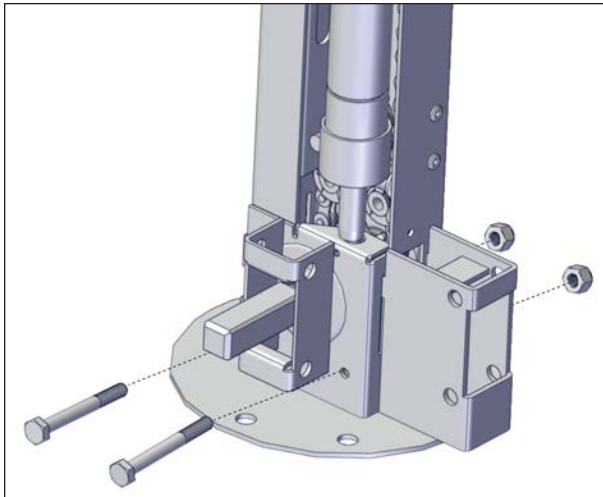

FIGURE 38: SCREW INSTALLATION
5. Install two 1/4" x 2 1/4" hexagonal head screws and nylon- insert lock nuts. Use the appropriate socket wrench spanner to fasten the foot in place see Figure 38.
Make sure you respect the orientation of the fasteners, as shown in Figure 38.